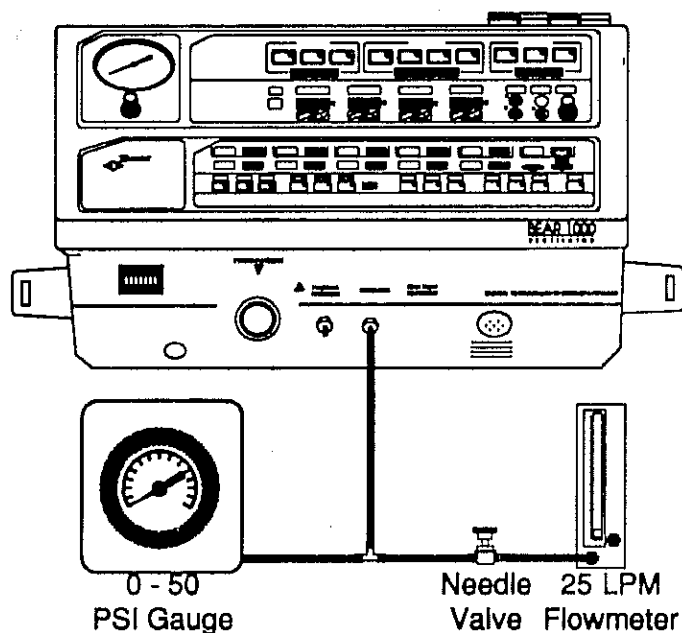

Figure 5-13
1. Connect the test equipment to the ventilator as shown in Figure 5-13.